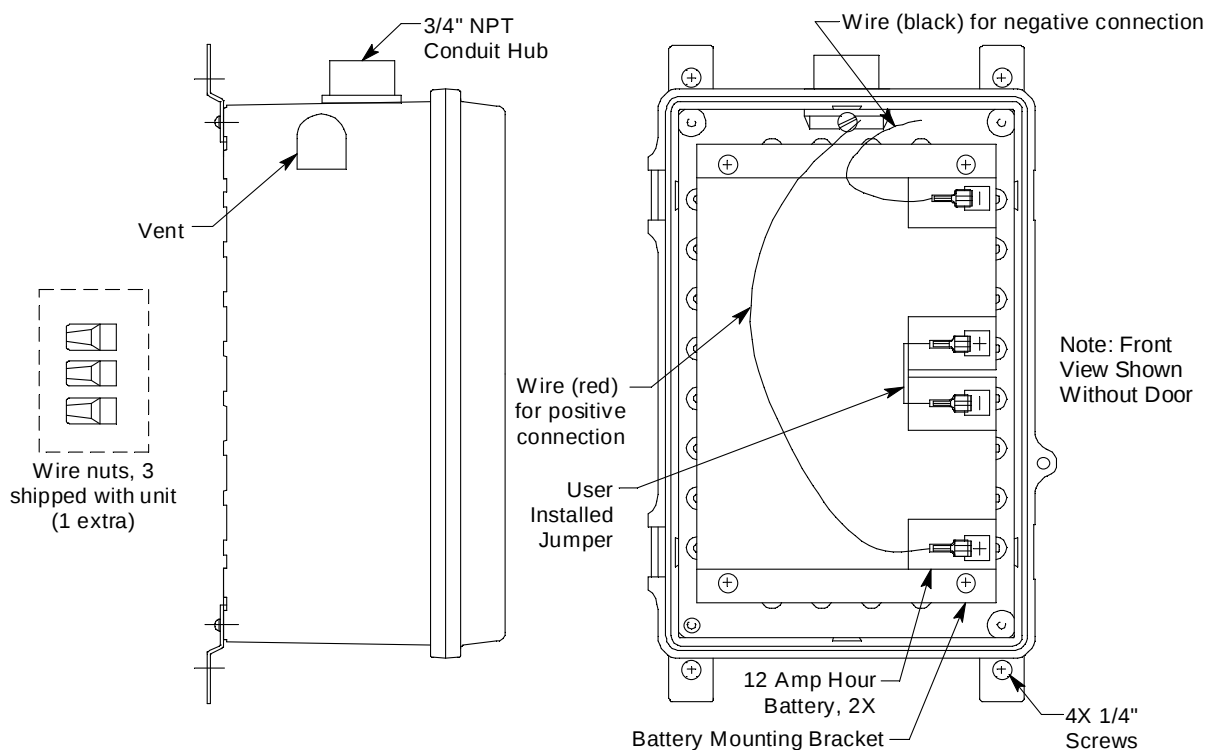

Figure 1: Standby Battery Component Location
4. Place the batteries in the enclosure and arrange them so that all battery terminals are on the right as shown in Figure 1.
7. Install the positive (red) wire to the “+” connection on the bottom battery (see Figure 1). This wire is one of three wires in a small bag included with the shipping contents.
8. Install the negative (black) wire to the “-” connection of the top battery (see Figure 1). This wire is one of three wires in a small bag included with the shipping contents.
9. Install the wire jumper between the “+” connection of the top battery and the “-” connection of the bottom battery (see Figure 1). This wire is one of three wires in a small bag included with the shipping contents.